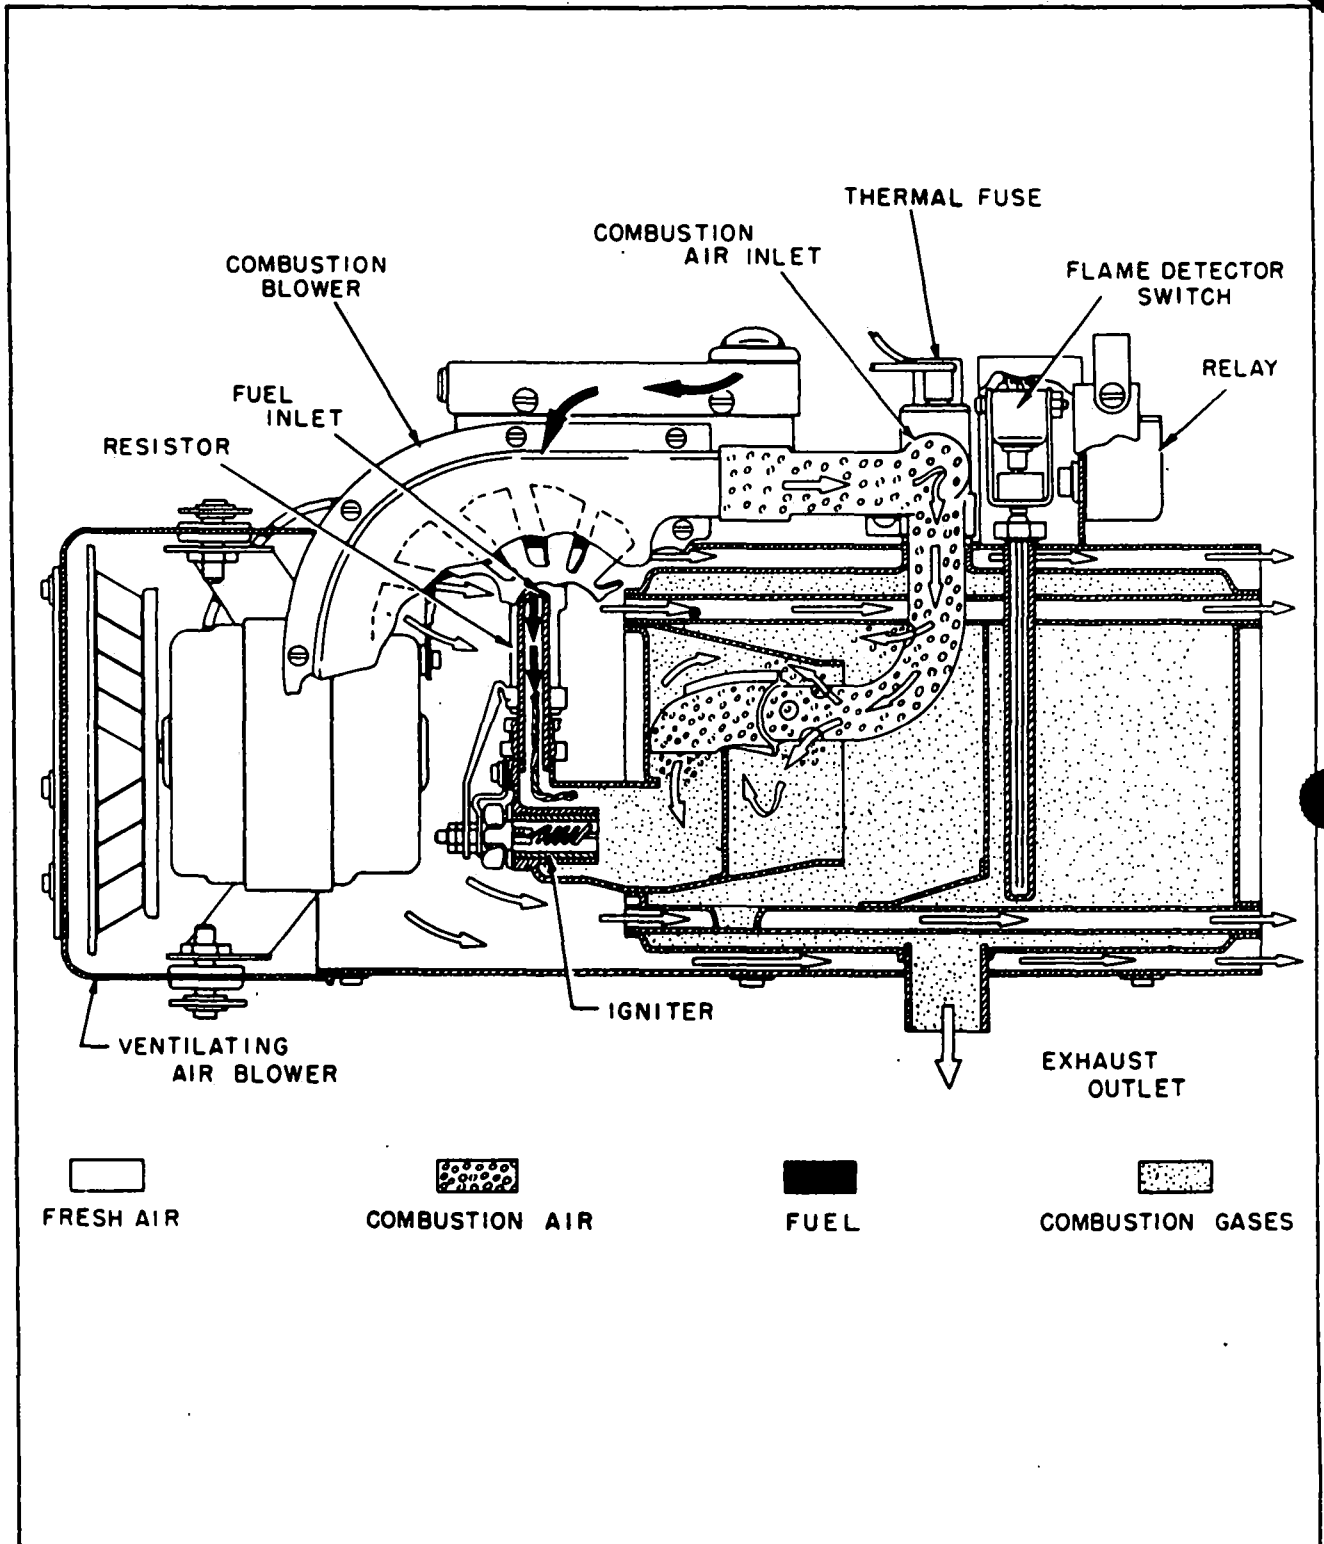

Figure 13-5. Flow System (South Wind Heater)
**13-10. PRINCIPLES OF OPERATION.** The South Wind Heater produces heat by burning a mixture of gasoline and air in a sealed, all-welded, stainless steel heat exchanger. (Refer to Figure 13-5.) Air for combustion is obtained from a blower on the side of the heater housing and is introduced into the heat exchanger through two metal elbows. Gasoline is obtained from the airplane's fuel system and is supplied to the heater through a safety valve and filter which may be mounted at any convenient point near the heater.
After being metered by the fuel control valve, the fuel passes through a short steel tube and enters a vertical standpipe. (Refer to Figure 13-5.) The fuel drips down the standpipe and saturates the stainless steel wick in the combustion chamber. The standpipe is surrounded by an electric heating element which is energized during the starting period and serves to preheat the fuel, thus insuring quick starts even at lowest temperatures.
When the shut-off solenoid is closed or unenergized, no fuel can enter the standpipe, and the heater is completely shut off. When the shut-off solenoid is energized, fuel flows through the low heat metering orifice and the heater burns on low heat. When both the restriction and shut-off solenoids are energized, fuel flows through both the low heat orifice and the restriction orifice, thereby providing sufficient fuel for high heat operation. After leaving the fuel control valve, the fuel drips down the standpipe where it saturates the stainless steel wick extending into the combustion chamber. (Refer to Figure 13-5.)
13-18. COMBUSTION AIR SYSTEM. The combustion air blower blows air through the metal elbows into the heat exchanger. Inside the heat exchanger the air passes through another duct (Refer to Figure 13-5.) and is blown into the burner cone, where it mixes with the gasoline vapor and the mixture is ignited by the igniter.
**13-22. IGNITER.** The igniter is an electric "glow plug" type of heating element which glows red hot when energized. (Refer to Figure 13-5.) To prolong the life of the igniter, it is shut off by the flame detector switch as soon as combustion starts.